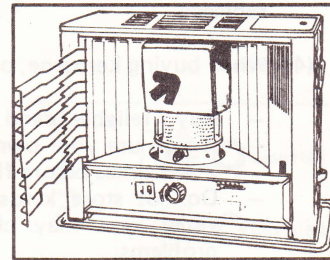

Fig. 1
- (1) Take out heater body from the packing case and remove the plastic wrap. Open the guard by tearing off the tape which holds the guard shut.
- (2) Remove cardboard from Burner (Fig. 1)
- (3) Open tank cover. Take out cartridge tank and remove pieces of corrugated cardboard for cap cushion from the bottom. Do not remove tape from filler cap as this is a filter tap.
- (4) Keep the packing case as a storage box for heater. For future use also keep operating instruction manual.